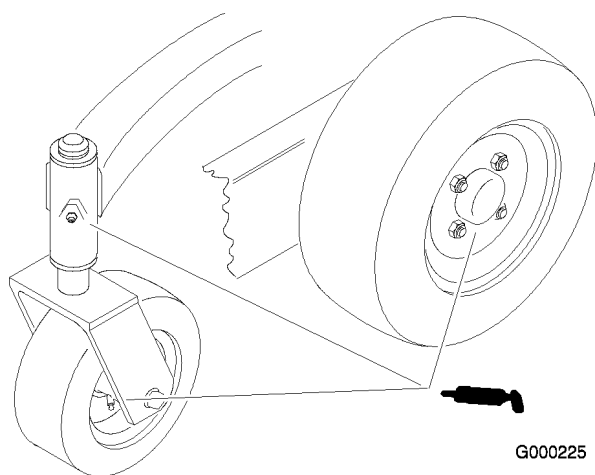

Figure 28
1. Lubricate the front wheel bearings and front spindles (Figure 28).
4. Remove rear wheel grease cap. Lubricate the rear wheel bearing (Figure 28).